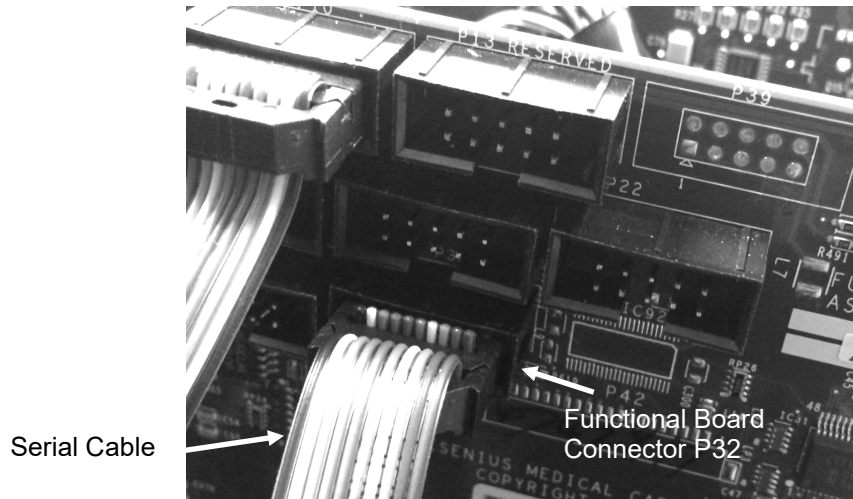

Figure 14 – Functional Board Connector P32
22. Route the Serial Cable between the display assembly and the circuit boards. Once the cable end reaches the Functional board, plug the end into connector P32 as shown in Figure 14.